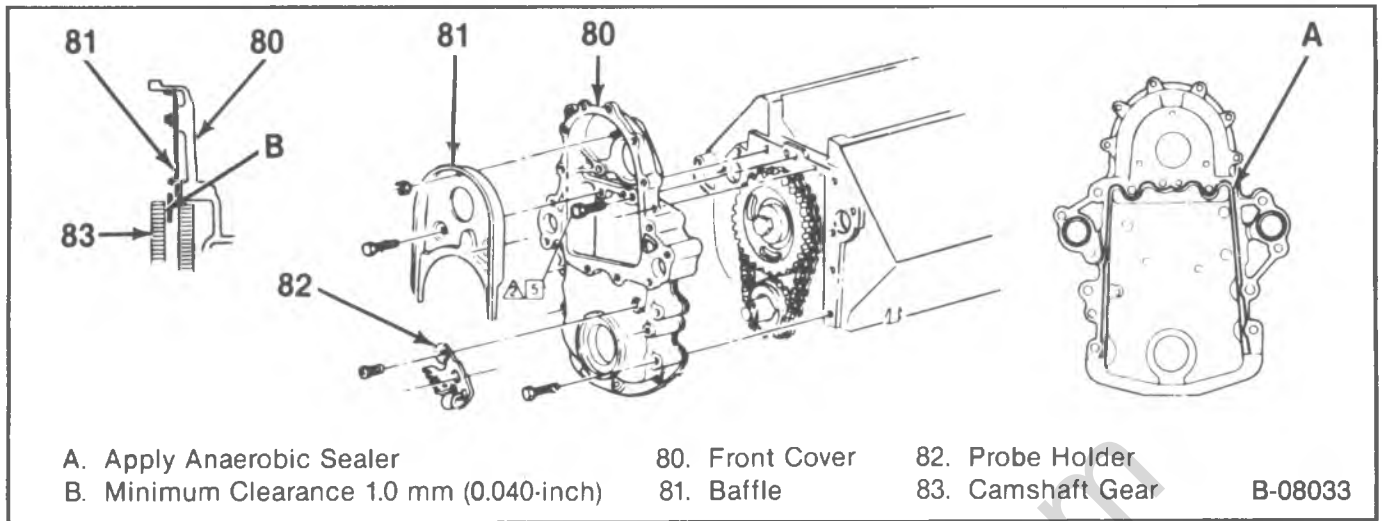

Figure 14—Front Cover and Components
↔ Remove or Disconnect (Figures 14 and 15)
↔ Install or Connect (Figures 14 and 15)
- Apply a 2 mm ($\frac{3}{32}$ -inch) bead of anaerobic sealant (GM part number 1052357 or equivalent) to the front cover sealing area shown in Figure 14.
- Clearance between injection pump gear and baffle (figure 14). It is necessary to maintain a minimum of 1.0 mm (0.040-inch) between the gear and baffle, or noise may result.
**Install or Connect (Figures 14 and 16)**